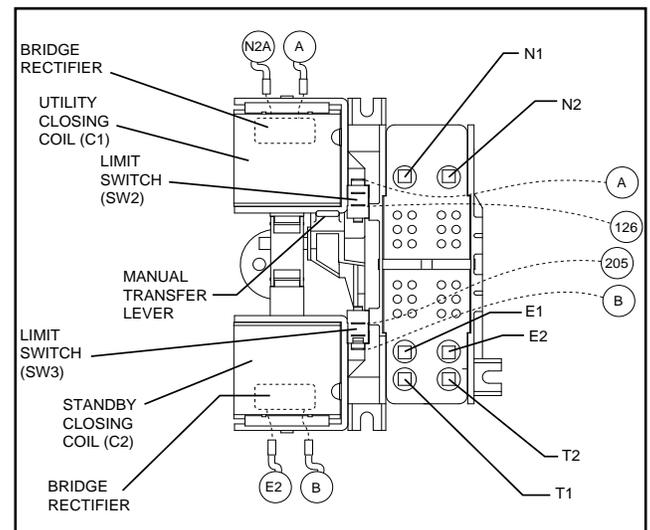

Figure 4. The "W/V-Type" Transfer Mechanism
See Figure 4. This coil is energized by rectified utility source power, to actuate the load contacts to the UTILITY power source side. When energized, the coil will move the main contacts to an "overcenter" position. A limit switch will then be actuated to open the circuit and spring force will complete the retransfer to STANDBY. A bridge rectifier, which changes the utility source alternating current (AC) to direct current (DC), is sealed in the coil wrappings. If coil or bridge rectifier replacement becomes necessary, the entire coil and bridge assembly should be replaced.